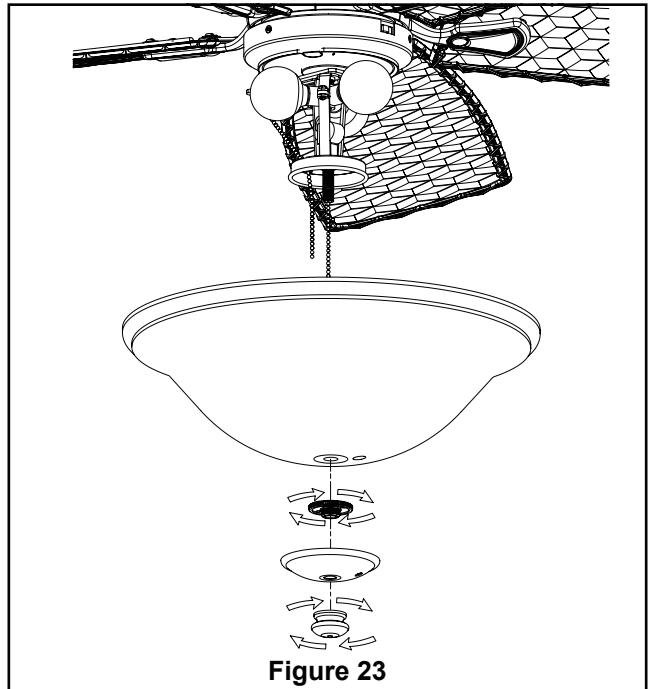

Figure 23
2. Secure glass bowl to light fitter using supplied nut. Next, install trim cover followed by the finial. Do not over tighten. (Figure 23)